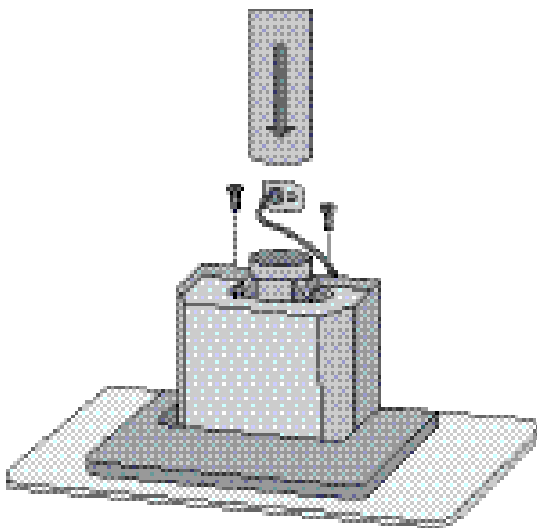

Fig. 12
8. Fix duct transition to cooker hood body (Fig. 12).